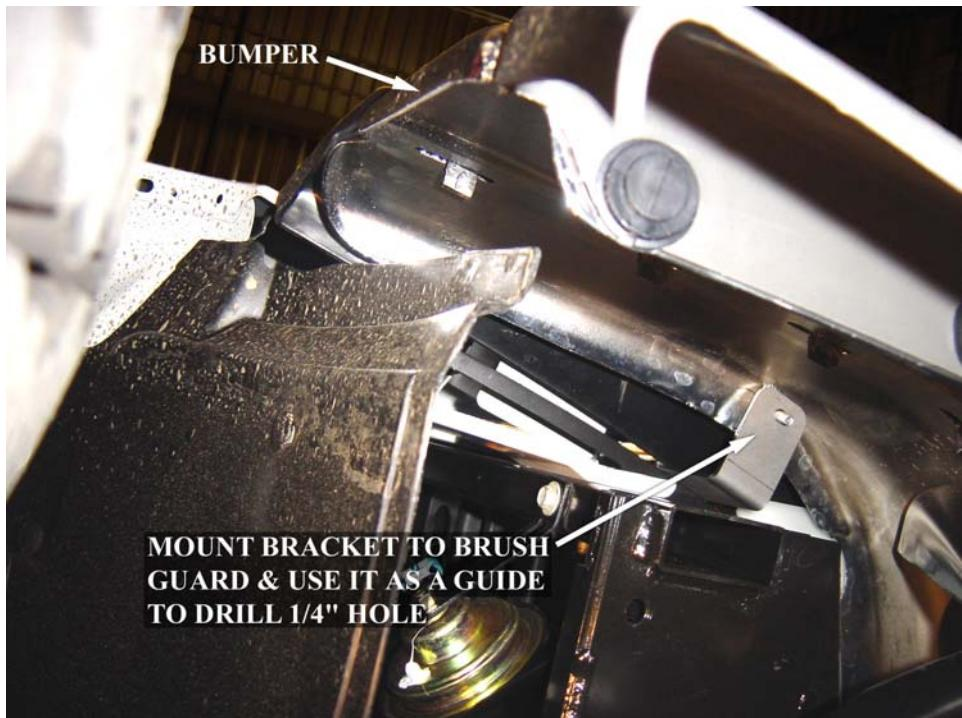

Figure 4: (3/4 & 1 ton only) Drill 1/4" hole, install 1/4" bolt and nut (passenger side).
4. **On 3/4 and 1 ton trucks only**, use the Brush Guard Bracket as a guide to drill a 1/4" hole in the bumper as shown in **Figure 4**.